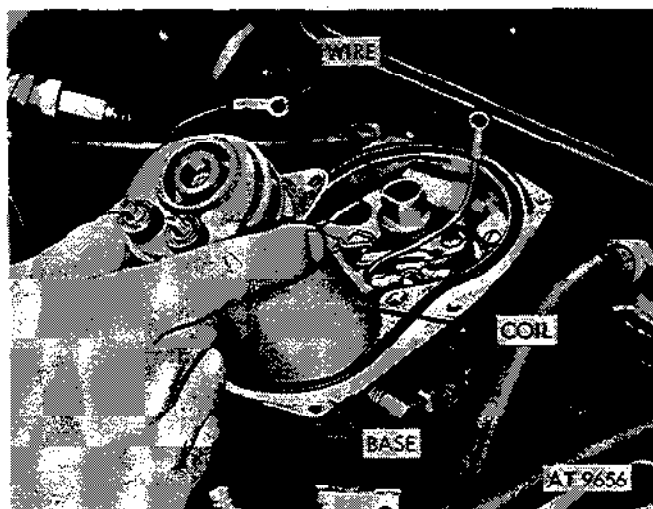

Figure 2-153. Removing or installing coil.
(6) Remove and discard old coil and coil leads (fig. 2-153).
(7) Attach the filter capacitor wire to the positive post of the coil and the capacitor wire to the negative post and secure with two lockwashers and two nuts. Torque nuts to 15-20 lbs. inc. (fig. 2-153).